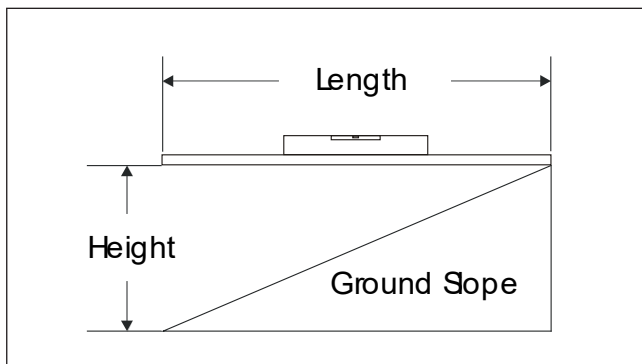

Figure 8.8 – Percent Grade Calculation
2. Holding the downhill end, raise the 2 x 4 until the level indicates that the board is level (refer to Figure 8.8).